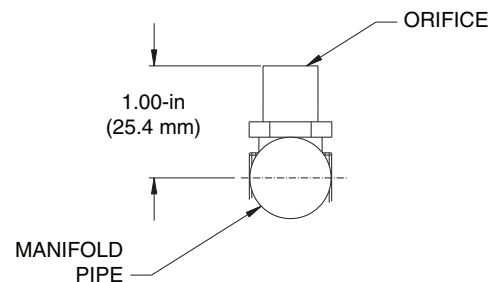

Fig. 53 — Orifice Projection
Refer to Fig. 53 for maximum projection dimension for orifice face to manifold tube.
5. If factory orifice has been removed, check that each orifice is tight at its threads into the manifold pipe and that orifice projection does not exceed maximum value. See Fig. 53.
Ensure each replacement orifice is tight as its threads into the manifold pipe and the orifice projection does not exceed maximum value. See Fig. 53.